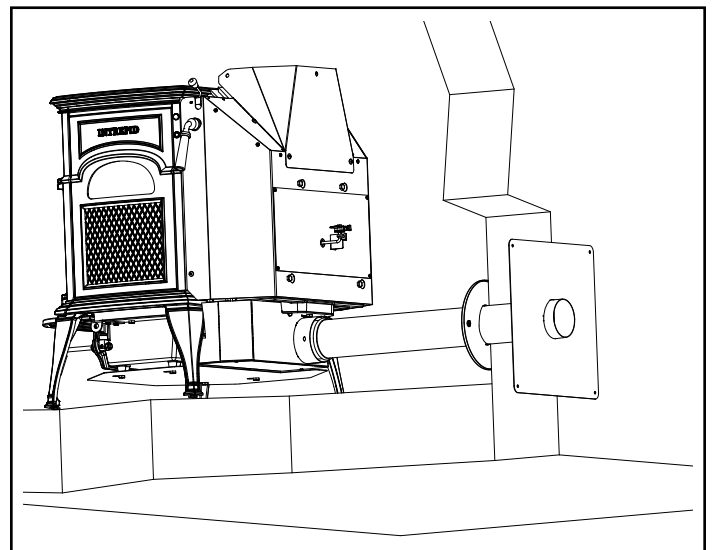

Figure 5.13 - Rear Installation
1. Using a #2 Phillips screw driver attach the flex adapter to the appliance using 4 screws. Figure 5.13 & 5.14.